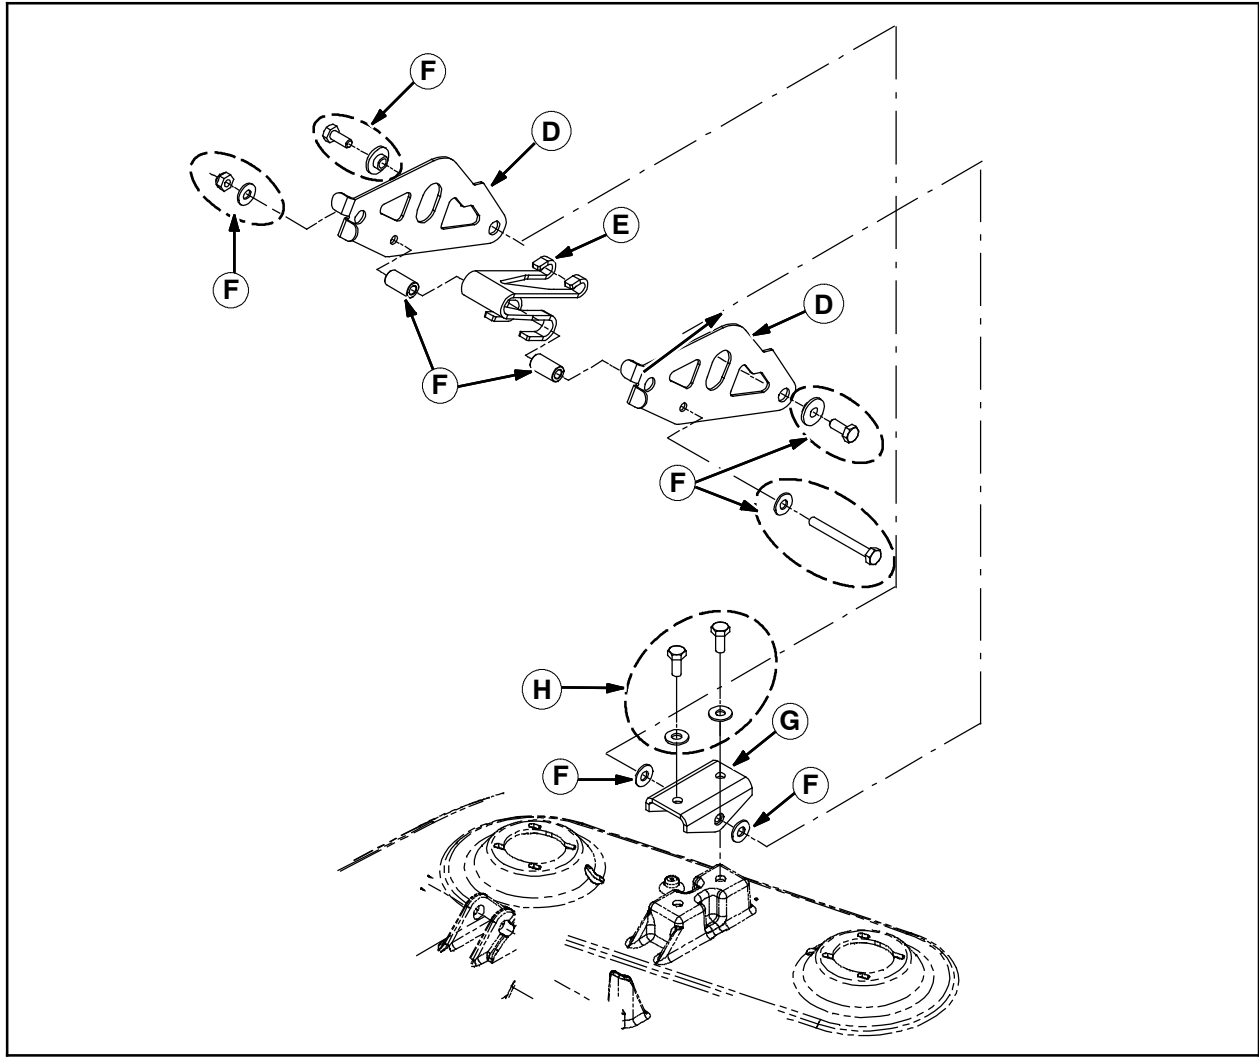

FIG. 3
11. Remove the center arm plates (D) and the scrub head lift spring (E) from the scrub head. Set center arm plates, scrub head lift spring, and all hardware (F) aside. Refer to Fig. 3.
12. Remove the lift bracket (G) from the scrub head. Set the lift bracket and hardware (H) aside. Refer to Fig. 3.
1. Use the saved hardware (H) to install the lift bracket (G) onto the new scrub head assembly. Refer to Fig. 3.
3. Use the saved hardware (F) to install the center arm plates (D) and scrub head lift spring (E) onto the scrub head assembly. Refer to Fig. 3.